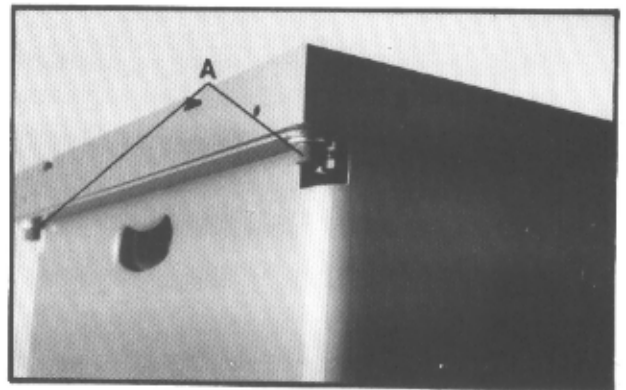

Fig. 10
7. If they are not the same, loosen four hex socket cap screws (A, Fig. 10) that hold the table to the base. (Two are shown in A, Fig. 10)